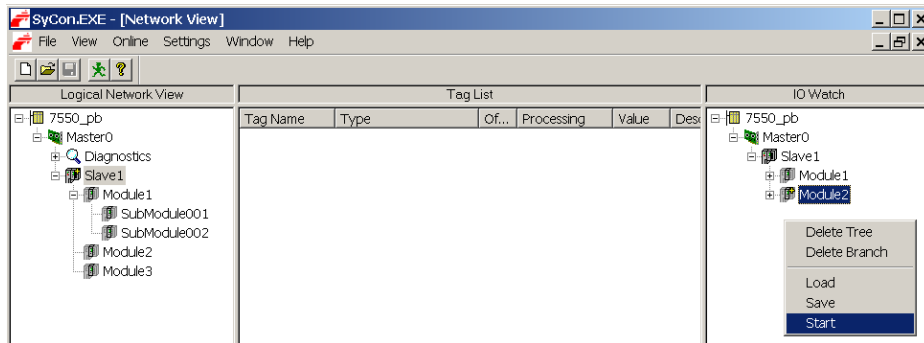
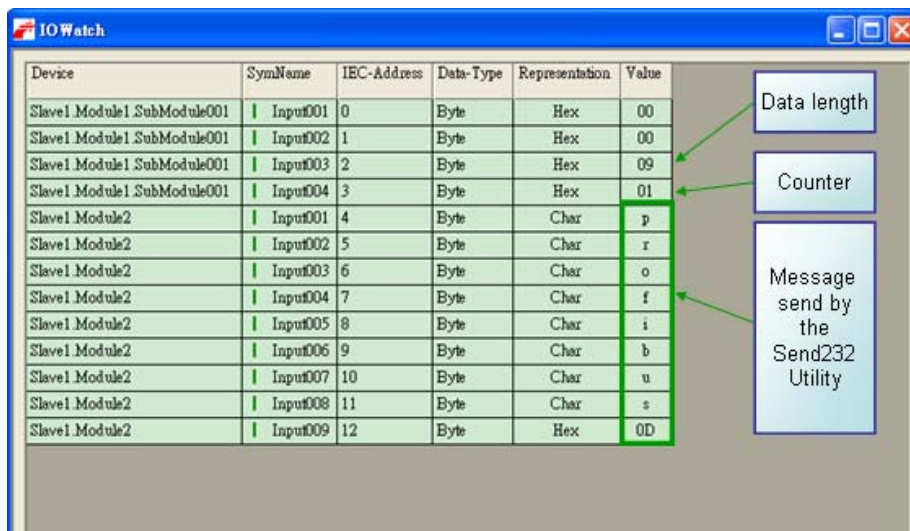

Figure 40: Open the IO Watch window
Figure 41: Display of the input data area
- Right click the “IOWatch” window and click “Start” in the popup window (Figure 40) to display the data input area (Figure 41)